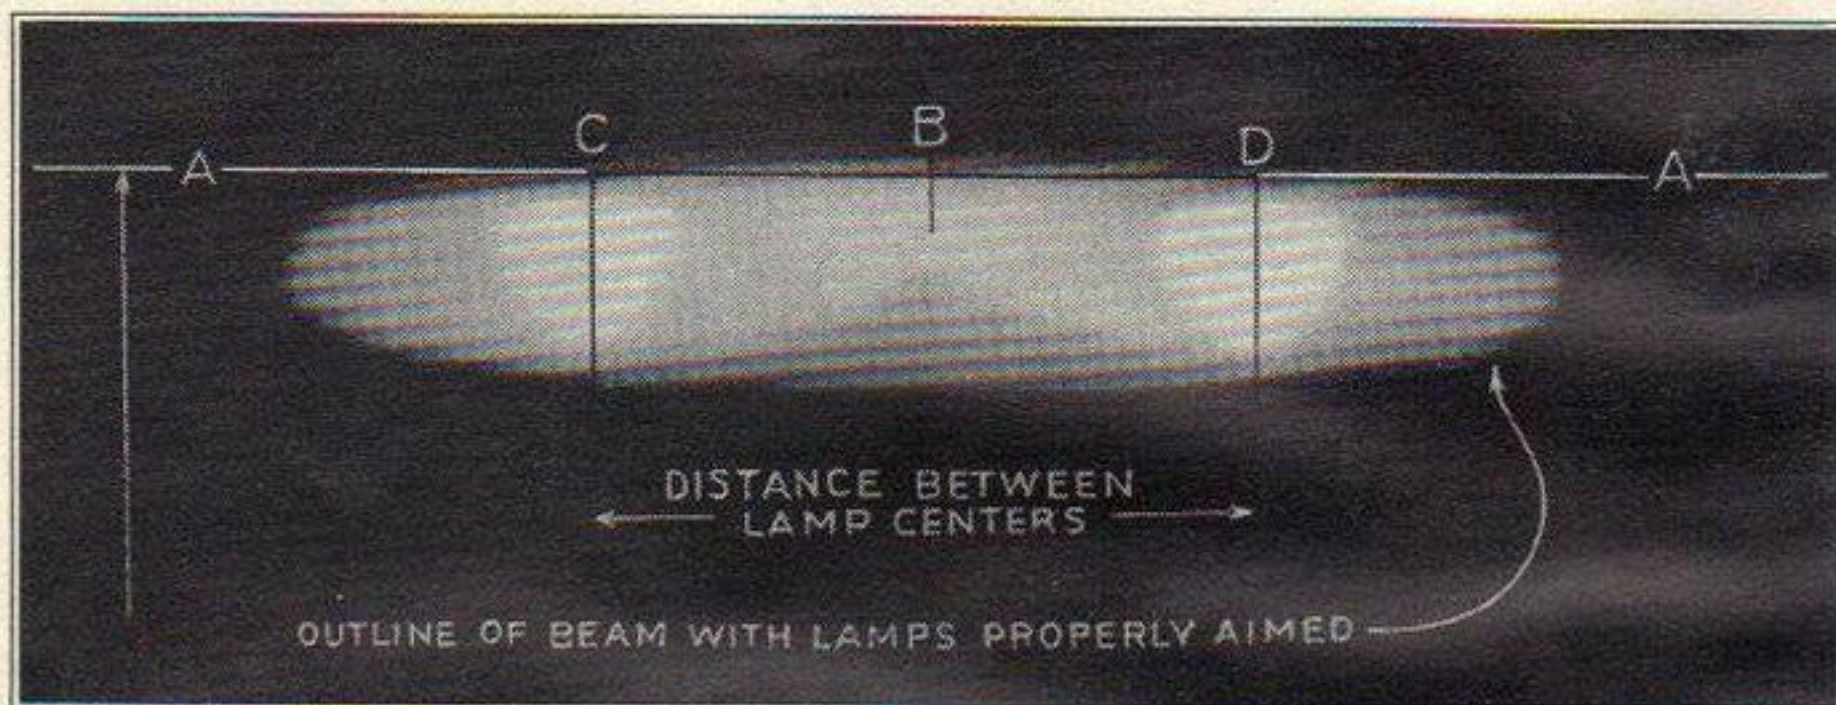

Figure 45
2. Determine center line of car by sighting along center of rear window and windshield center bar and marking a vertical line ("B"—10" long), Figure 45, on screen.